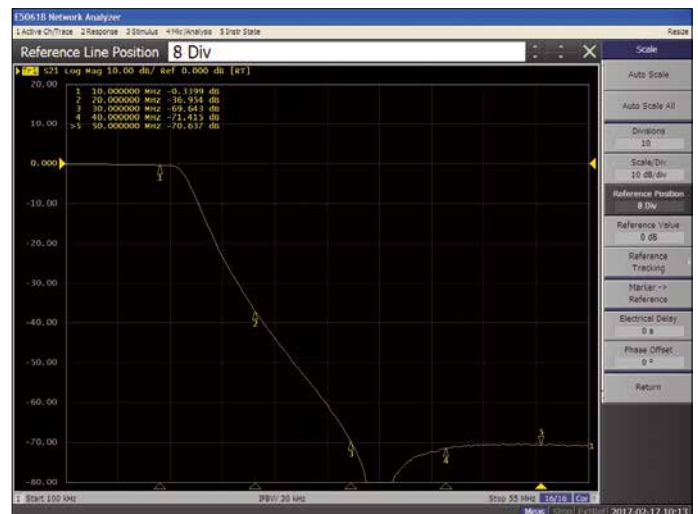

Figure 2: Amplitude curve of the SLP-10.7 low-pass filter by Mini Circuits.
**Figure 2** shows the amplitude curve profile of a low-pass filter that was inserted in place of the op-amp. Before the signal from the sig-gen reaches the input of the spectrum analyzer, it needs to pass through a ready-built low-pass filter (type SLP-10.7 from Mini Circuits, see [1]). Of course, you can also construct a low-pass yourself, but a commercial one like this does after all offer guaranteed characteristics and at just over €30 / £25 / \$33 approx. is not outrageously expensive.